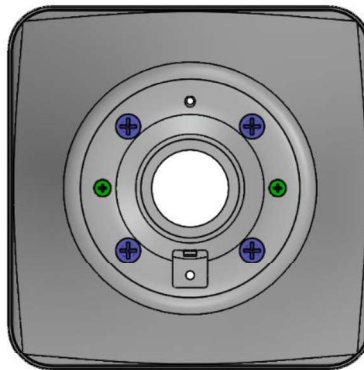

Figure 4 – Old Doubler Plate Removal
- 2.2.1 Per Figure 4, remove two #2 Phillips Screws (shown in green) and four #3 Phillips Screws (shown in blue). Remove and discard Doubler Plate and all screws. Remove old Threadlocker from threads.